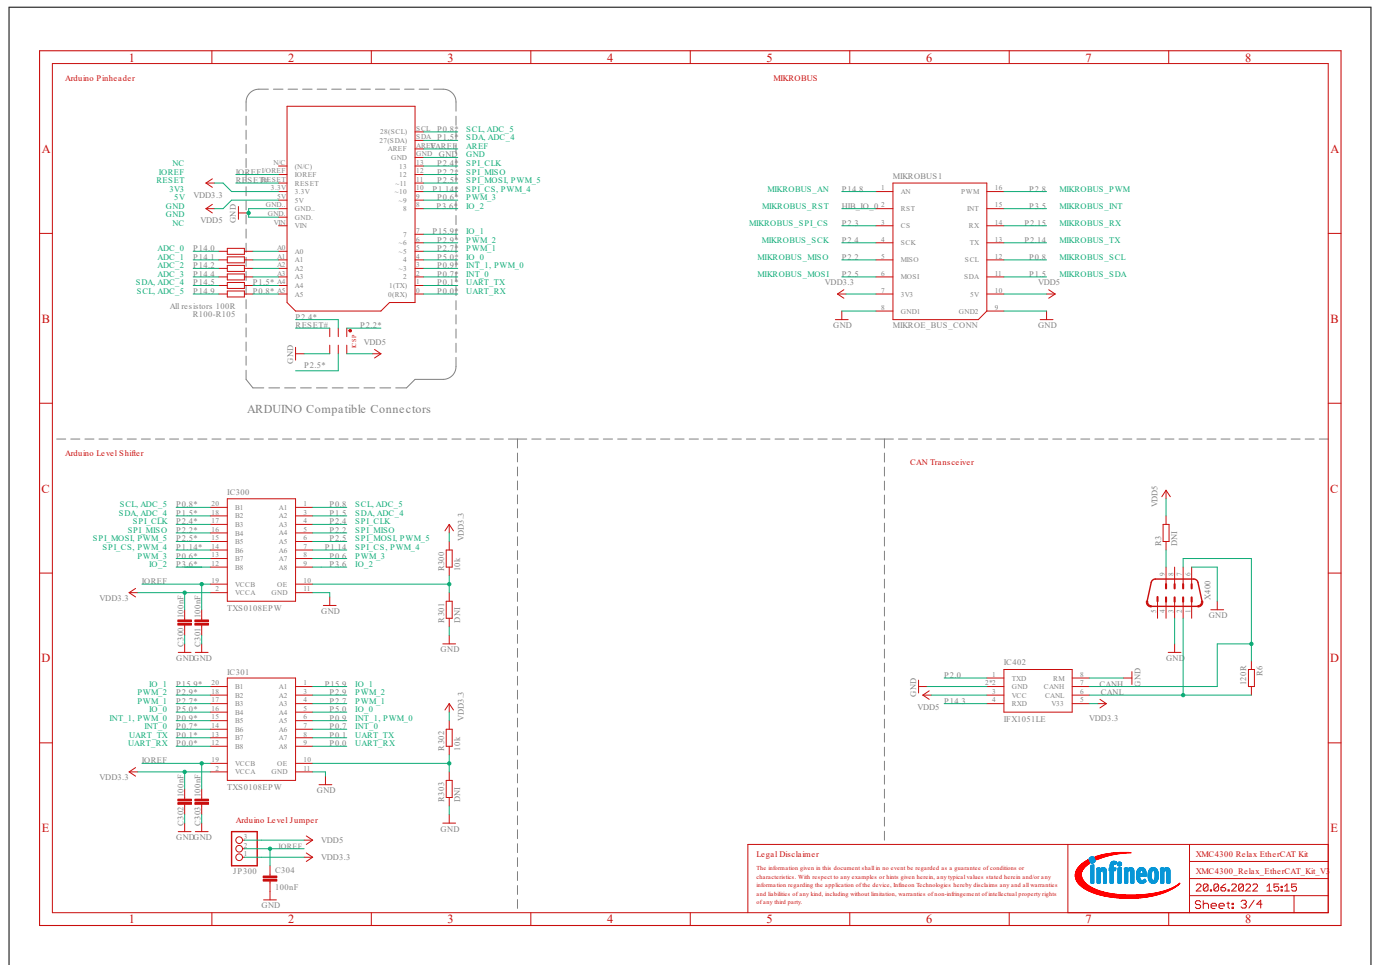

Figure 13 Schematic: Arduino, mikroBUS, CAN (see revision Revision 1.1)
- Figure 13 (See Revision 1.1)